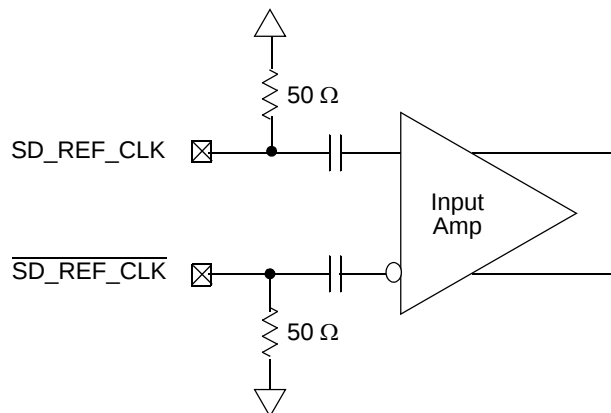

Figure 38. Receiver of SerDes Reference Clocks
Figure 38 shows a receiver reference diagram of the SerDes reference clocks.
- The SD_REF_CLK and $\overline{\text{SD_REF_CLK}}$ are internally AC-coupled differential inputs as shown in Figure 38. Each differential clock input (SD_REF_CLK or $\overline{\text{SD_REF_CLK}}$) has a 50-Ω termination to XCOREVSS followed by on-chip AC-coupling.